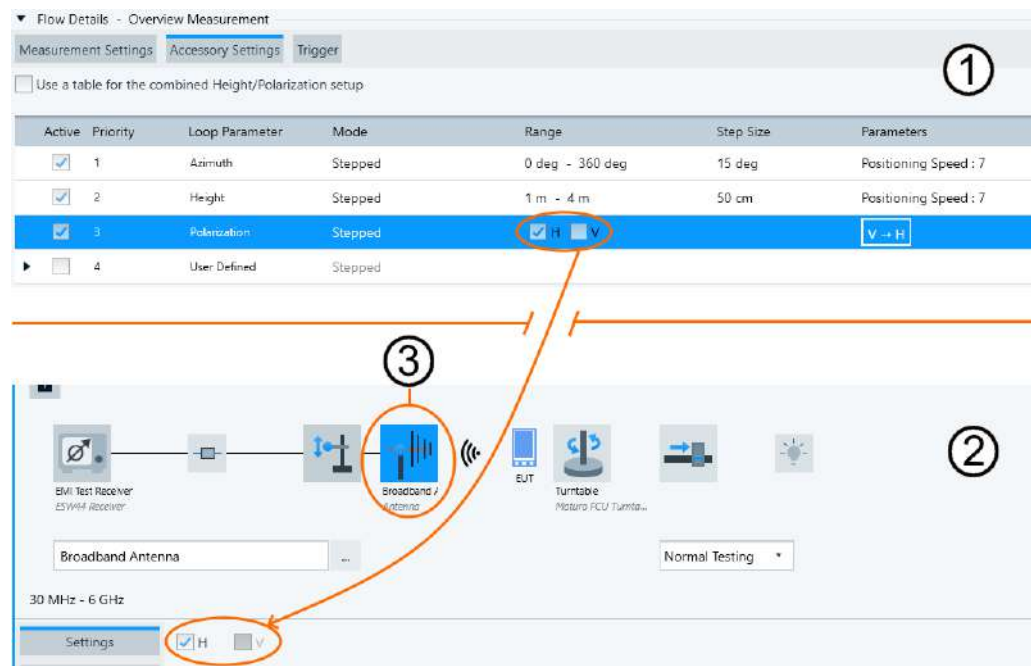

Figure 4-79: An example of an antenna with its V polarization parameter deselected
- Antenna: "H" or "V" polarization, as shown in Figure 4-79